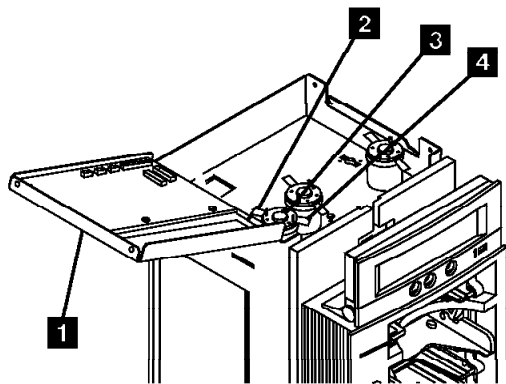

Figure 291. Elevator Motor Assembly
4. See Figure 291. Rotate the elevator leadscrew **7** to position the elevator assembly all the way to the bottom of the ACF.